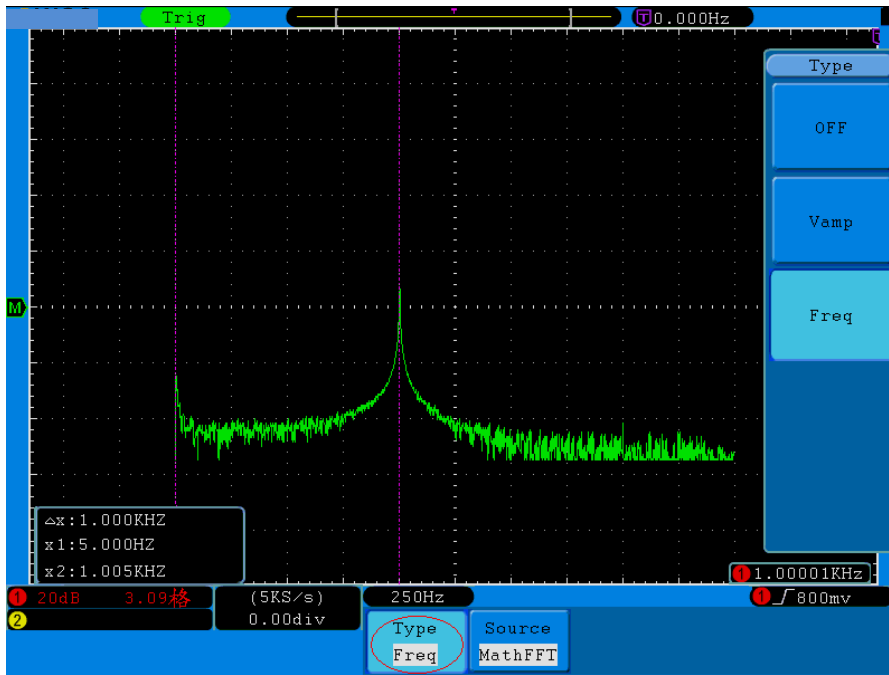

Figure 5-76 Wave of Freq cursor measurement
3. According to the measured waveform, adjust the positions of Cursor1 and Cursor2 by turning the **VERTICAL POSITION** rotary control of CH1 and CH2. Increment window shows two cursors difference value and the present position (see *Figure 5-76*).